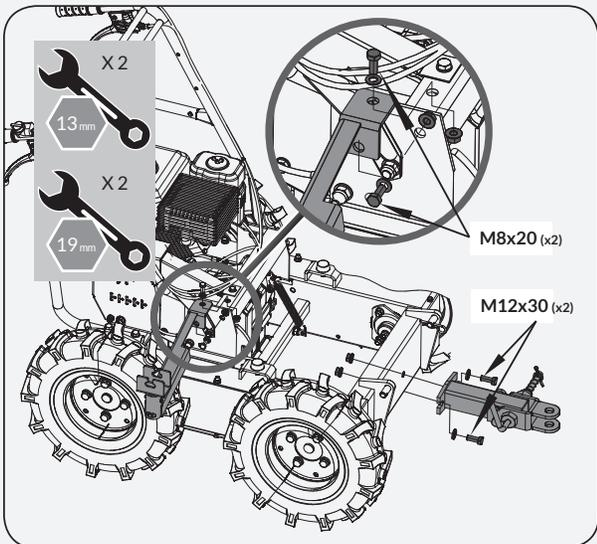

Figure 1b
2. Mount the bracket for the angle control lever to the frame with M8X20 bolts, washers and nuts. (See **Figure 1b**)
3. Mount the flange bracket with M12X30 bolts, washers and nuts. (See **Figure 1b**)